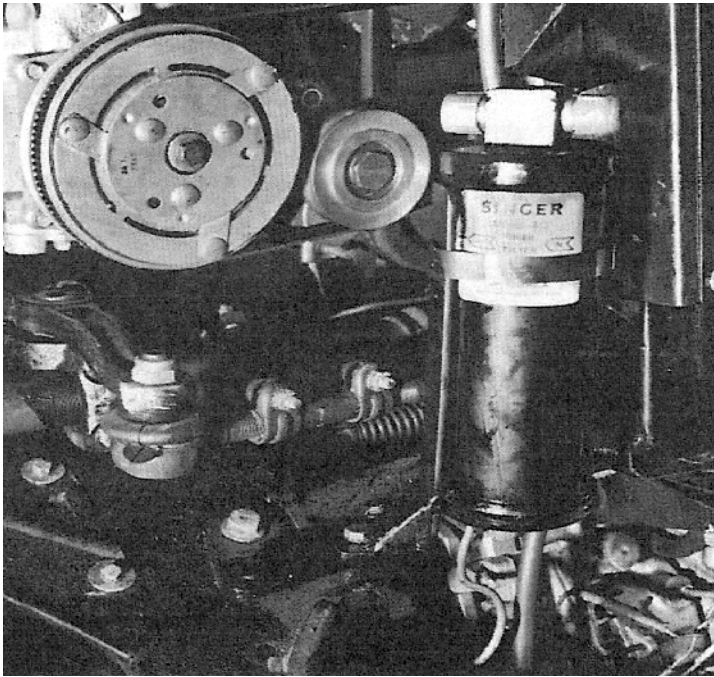

FIG 15
1. Referring to FIG: 15, attach drier bracket #15-13093A using the 1/4" x 3/8" bolt and 1/4" lock washer to the innermost threaded hole of the triangular shaped plate. Install drier and position with the "IN" fitting forward (do not connect hoses at this time).